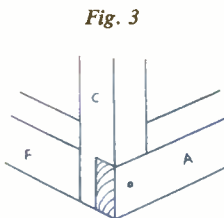

Fig. 3
The bottom sections of the frame (A, C, F) are connected as in Fig. 3. (A) and (C) are half-lapped and a long nail is driven through both into the end of (F), which butts up against (C).